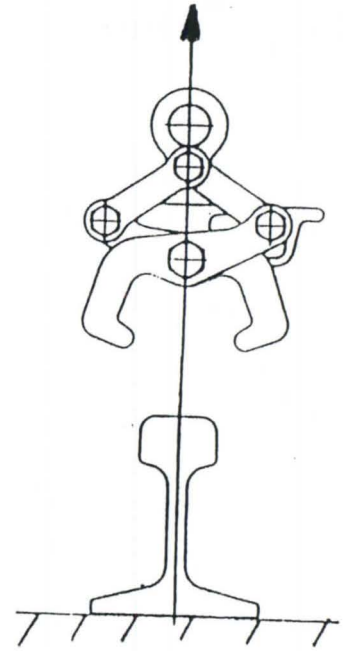

Fig. 9
8. Wind the crane hook up and then only clamp goes up as shown in Fig. 9.